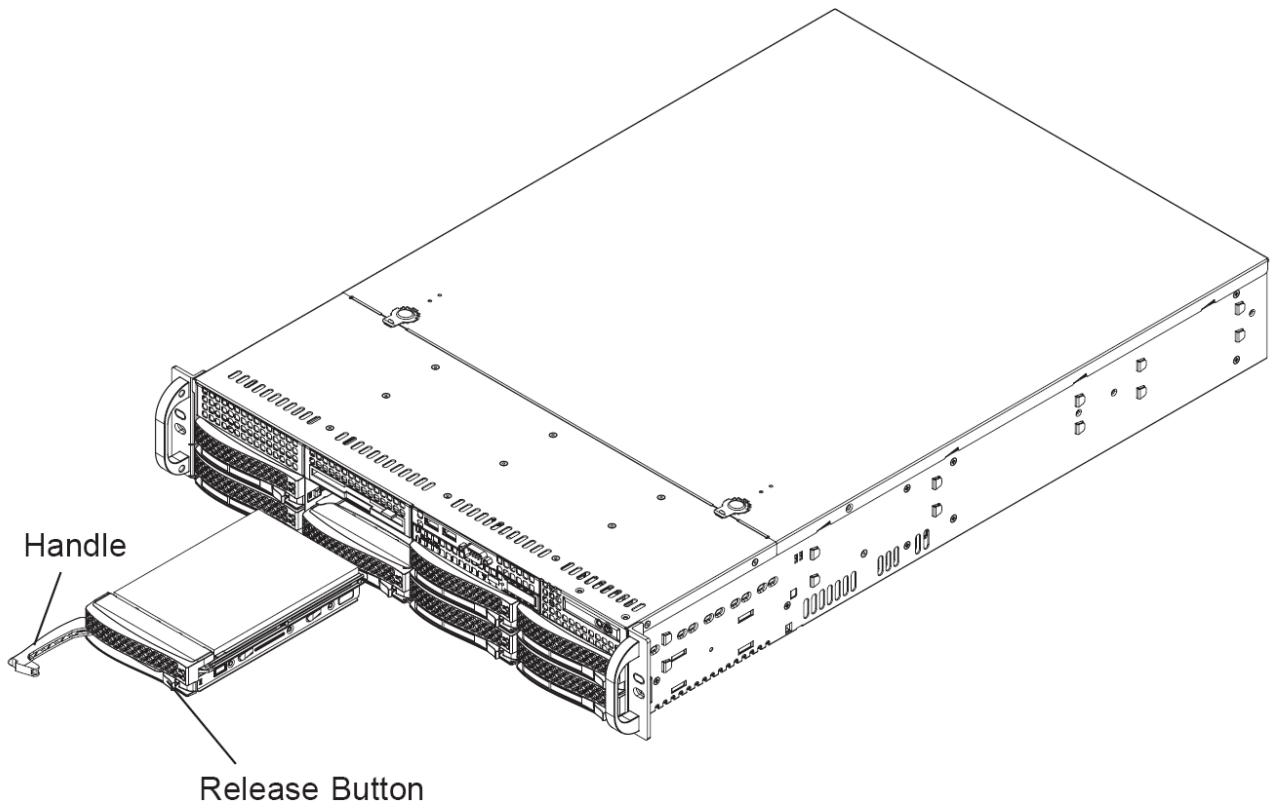

Figure 6-3. Removing a Drive Carrier
2. Swing the handle fully out and use it to pull the drive carrier straight out (see Figure 6-3).